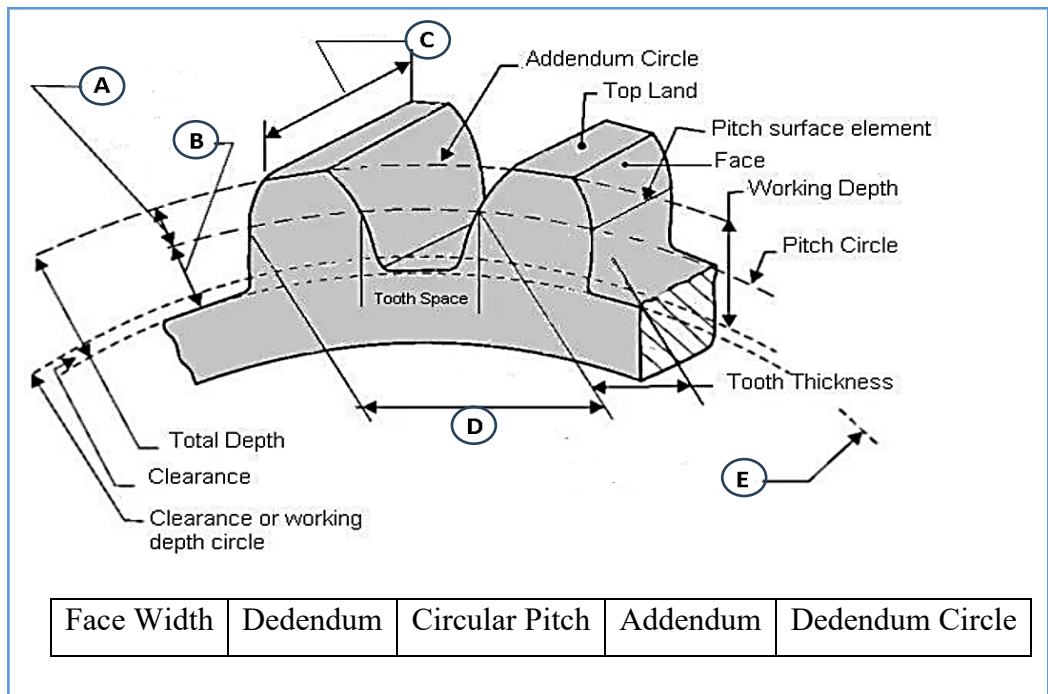

Figure 4(b) / Rajah 3(b)
- b) Match **FIVE (5)** suitable answer based on Figure 4(b) below :